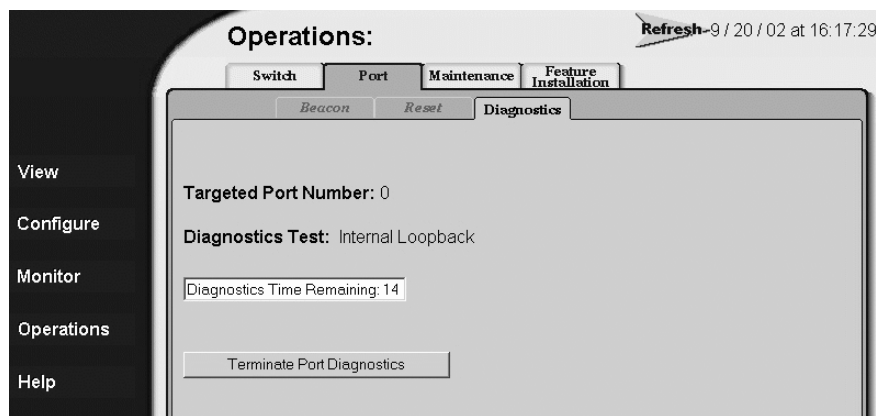

Figure 40: Diagnostics test in progress
3. Click **Start Port Diagnostics**. Port beaconing automatically initiates on the ports that you choose for loopback diagnostics (Figure 40). The test usually lasts 30 seconds.